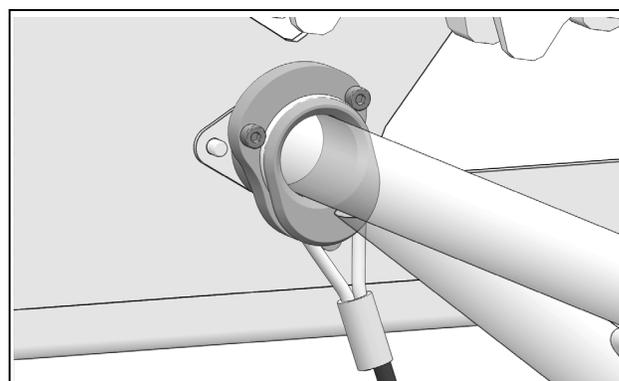

Figure 18
- **Position longue :** conditions de surface dure. Figure 18.